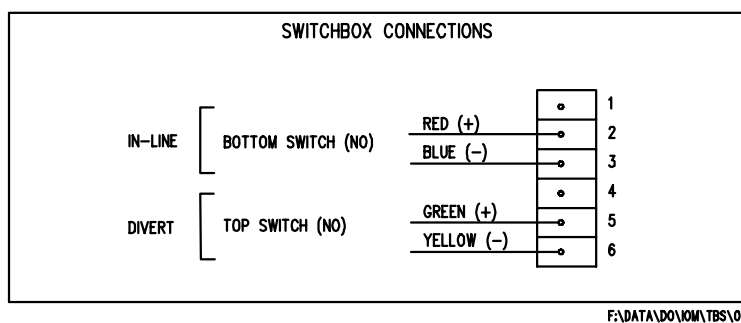

Fig 4
1.3 Connect the limit switches to the users system in accordance with figure 4.